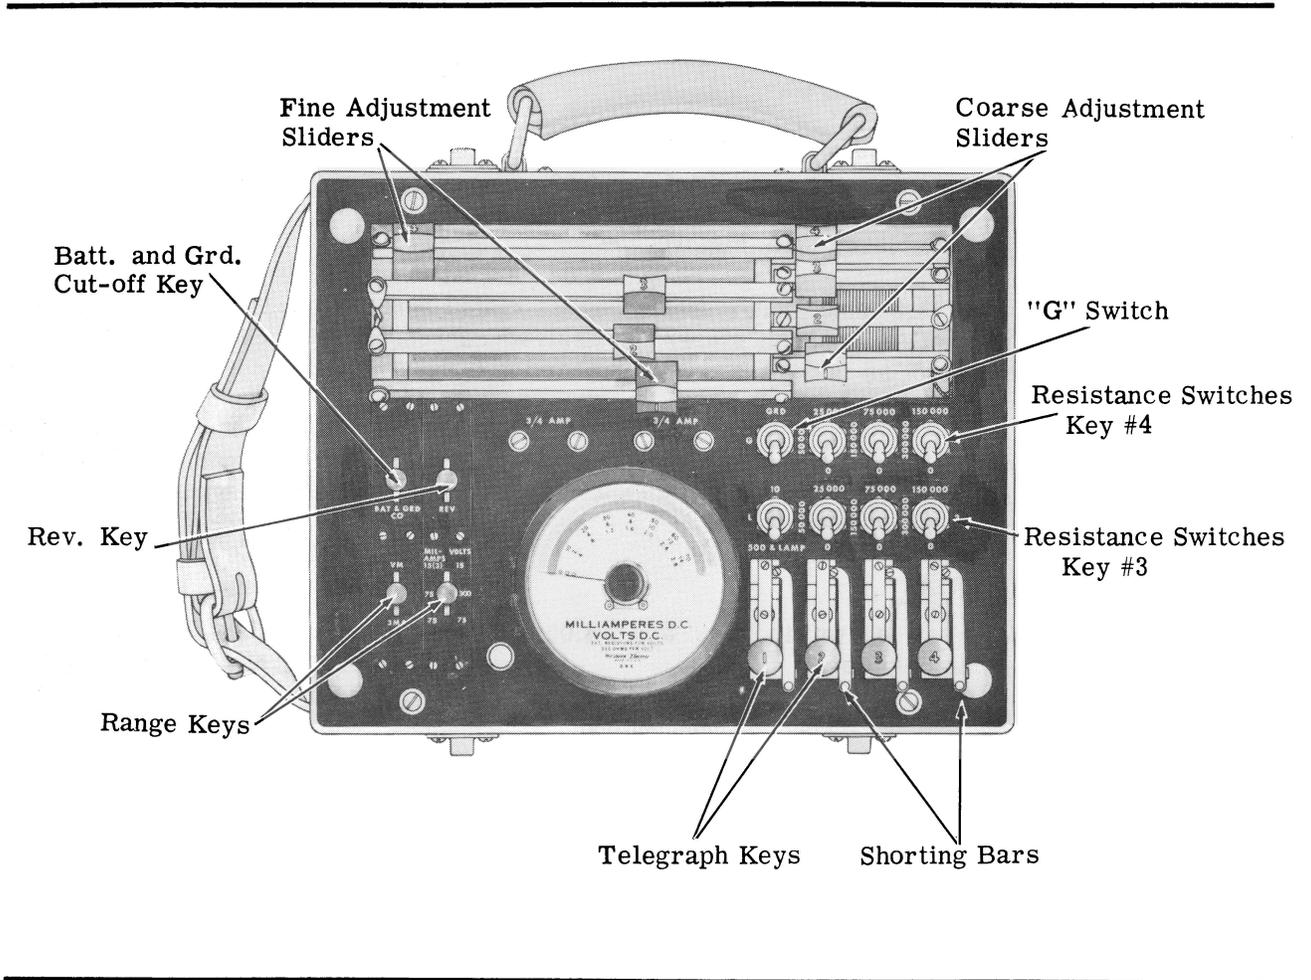

Fig. 1. Orientation View of 35-F Test Set
2.02 Four telegraph type keys (see Fig. 1) allow up to four preset current values to be applied to the external apparatus under test. Two rheostats connected in series are used as the variable resistance. The smaller rheostat is equipped with four red sliders, one for each of the telegraph keys. These are used to adjust the current flow to the approximate value desired (coarse adjustment). The larger rheostat has four black sliders, one for each of the telegraph keys, and these are used to adjust current to exact value desired.
(A) Additional resistance, up to 500,000 ohms may be cut into the circuits of keys 3 and 4, by means of the resistance toggle switches. (See Fig. 1)
2.03 Operation of the left hand range key (see Fig. 1) to the VM position allows the 35-F set to be used as a volt meter.